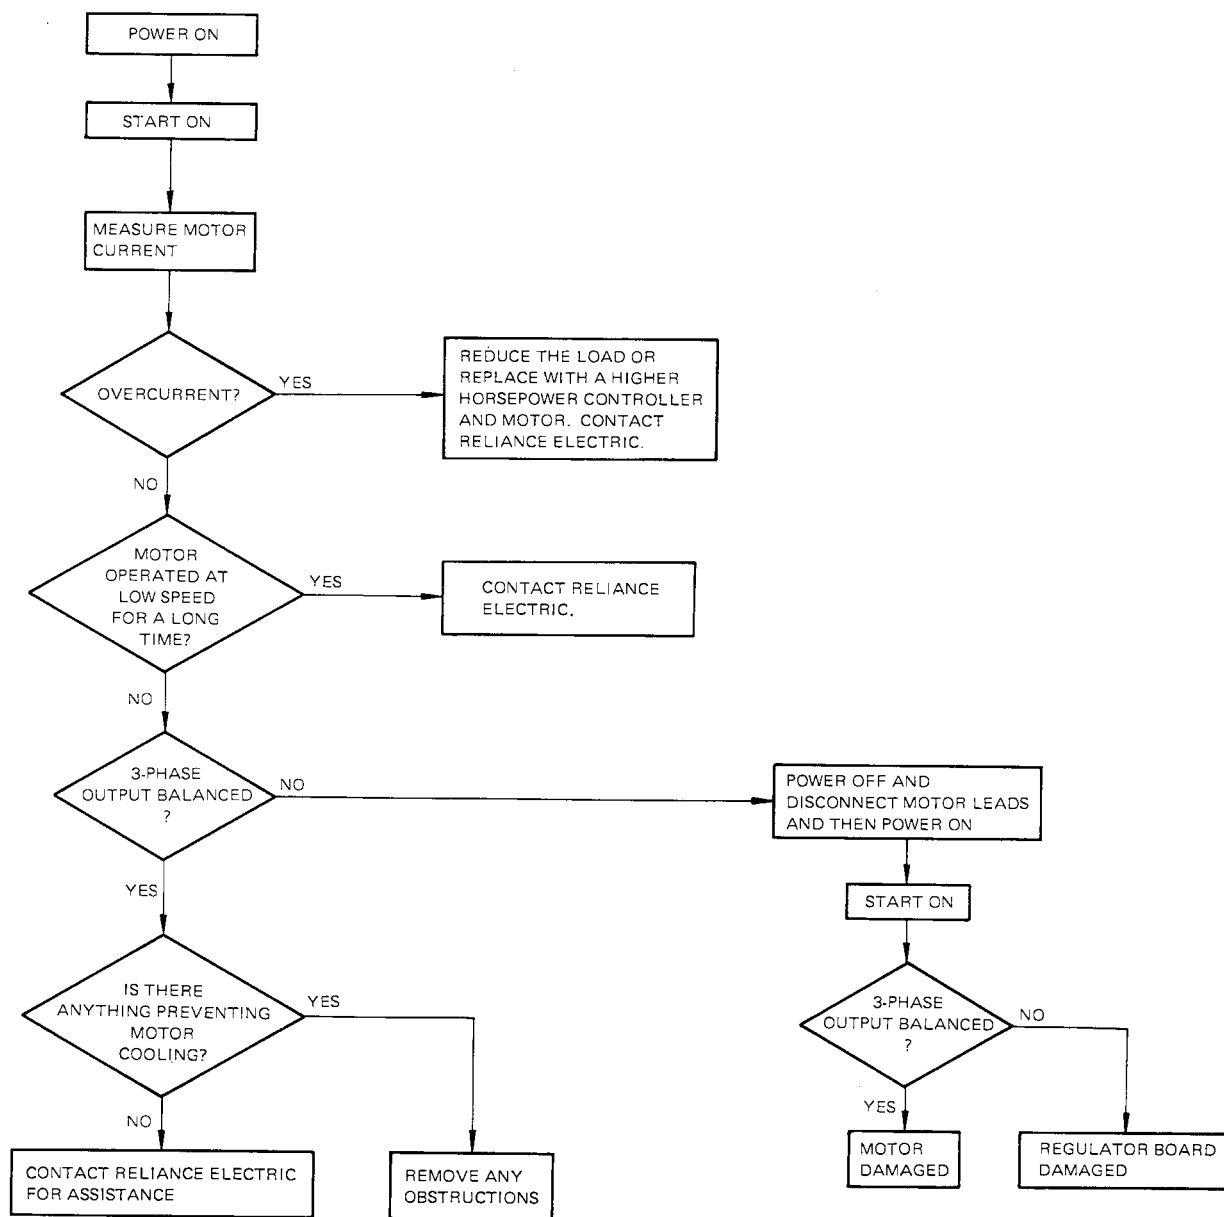

Figure 4-5. Motor overheats above allowable temperature.
5. Motor overheats above allowable temperature (**Figure 4-5**).